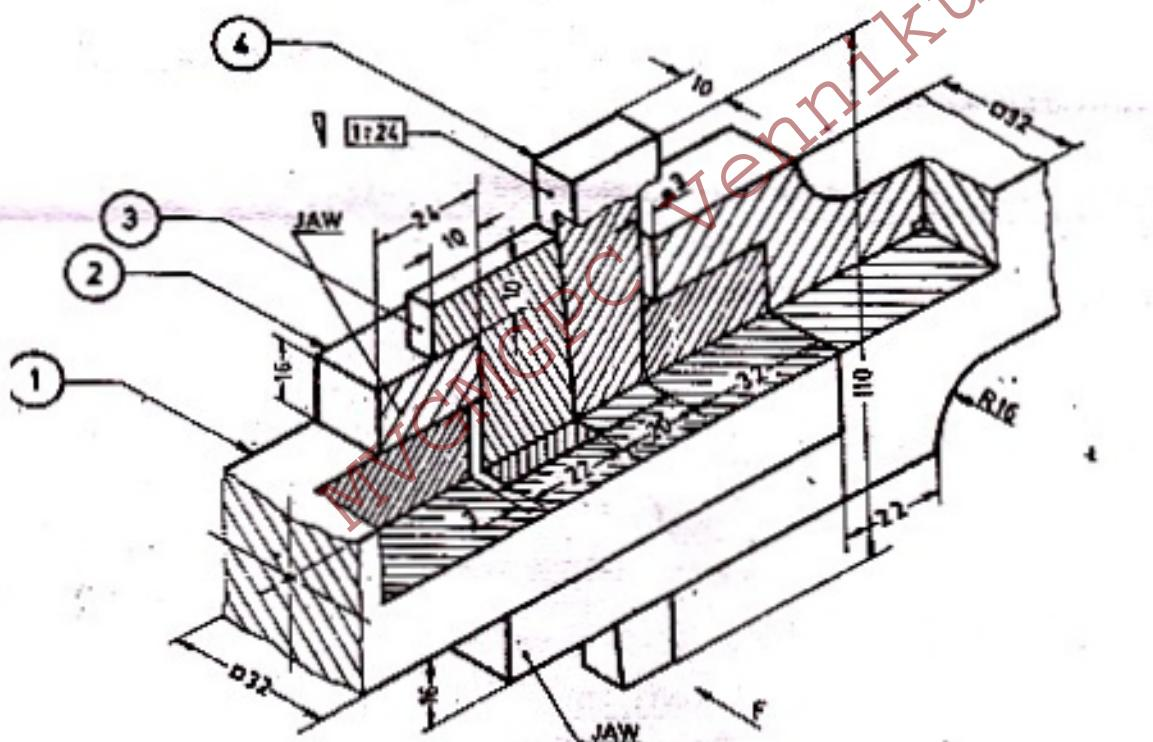

Figure 1
- III. Draw the full section elevation and end view of a Gib and cotter joint shown in figure 1. (30)